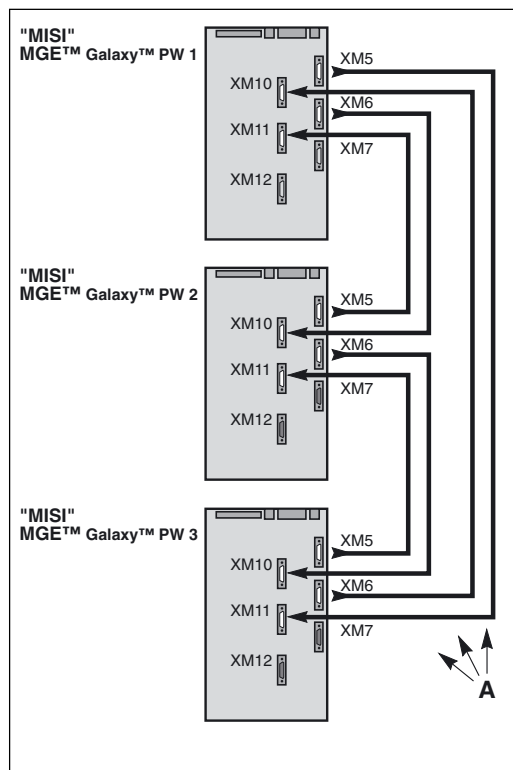

Fig. 29
- ▶ situation with three parallel UPS units: see figure 29;